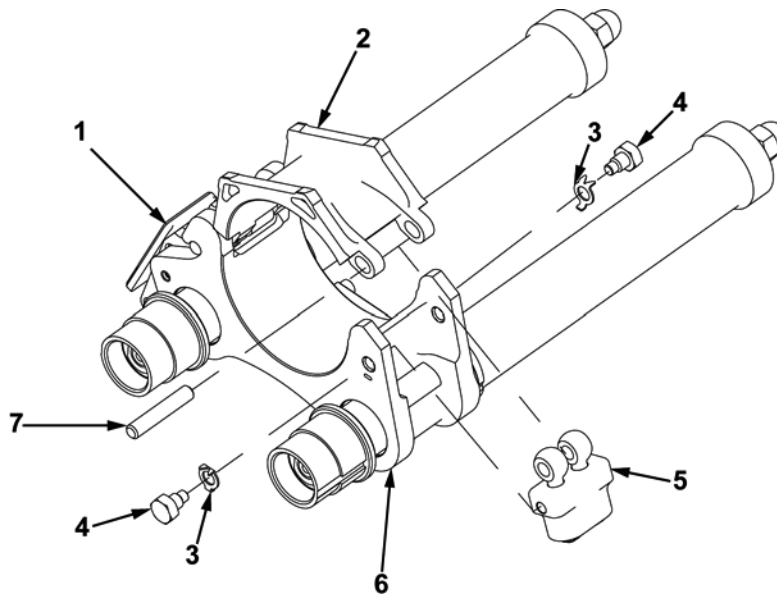

Figure 1. Removal of Spring Housing Assembly.
1. Straighten tabs on two key washers (Figure 1, Item 3). Remove two machine bolts (Figure 1, Item 4) and two key washers. Discard key washers.
2. Open clamping catch (Figure 1, Item 1). Remove upper clamp (Figure 1, Item 2), with spring housing assembly (Figure 1, Item 5) and clamping catch from lower clamp (Figure 1, Item 6).
3. Remove headless straight pin (Figure 1, Item 7) from upper clamp (Figure 1, Item 2) and spring housing assembly (Figure 1, Item 5).